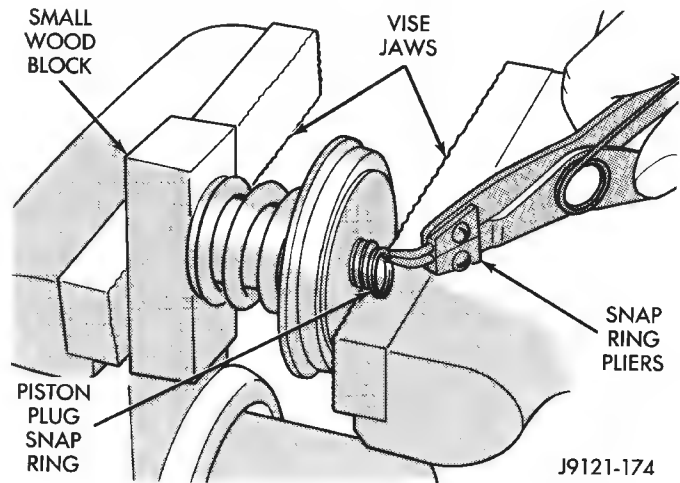

Fig. 102 Removing/Installing Servo Piston Plug Snap Ring
- (1) Remove seal from servo piston. Note which way seal lip faces for assembly reference.
(2) Compress cushion spring in vise only enough to allow piston plug snap ring removal (Fig. 102). Use wood block between vise jaws and end of piston plug to keep plug aligned and in position.
(3) Remove snap ring from end of piston plug (Fig. 102).
(4) Open vise and remove wood block, piston plug, cushion spring and servo piston.